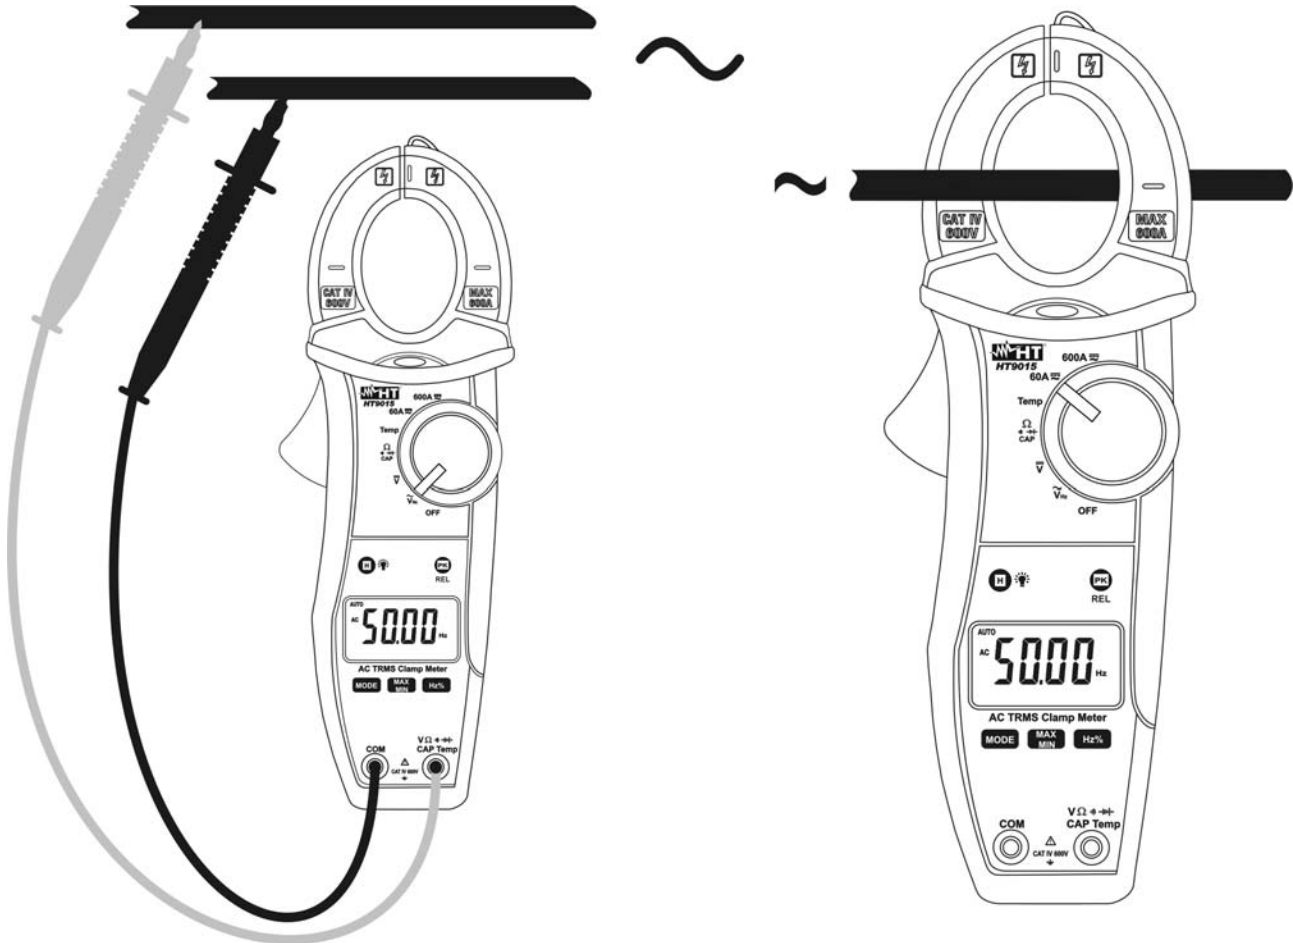

Fig. 10: Taking frequency and duty cycle measurements
3. Insert the red test lead plug into **V Ω \rightarrow CAP Hz% Temp** jack and the black test lead plug into **COM** jack (see Fig. 10 – left side) for frequency measurement with test leads. Open the clamp and put the conductor to be tested in the middle of the clamp jaw (see Fig. 10 – right side) for frequency measurements with jaws, then reading will be displayed. Bargraph is disabled in frequency and duty cycle test